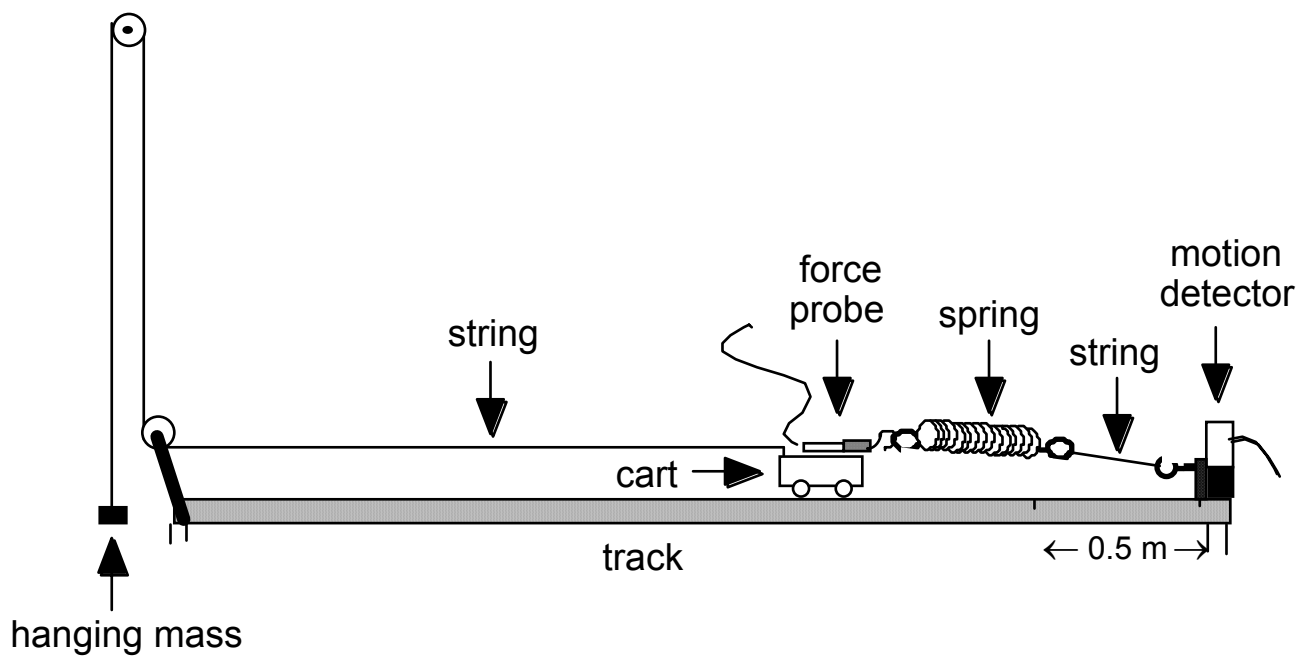

Figure 14. Experimental setup for Activity 4
2. Set up the track, cart, motion detector, and force probe as shown in Figure 14.
- Using the Velcro pad, attach the force probe onto the cart in the orientation shown in Figure 14.